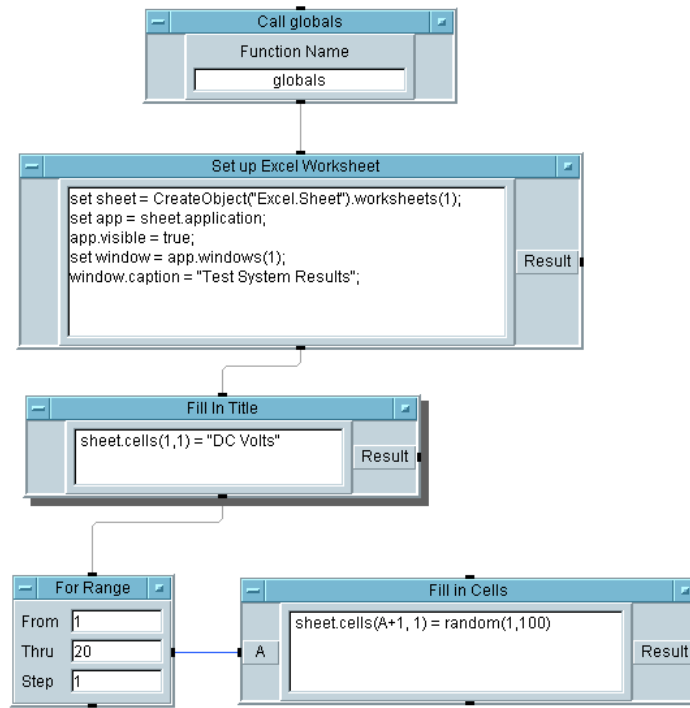

Figure 6-7. Adding the Title and Data to the Sheet
9. Create a `Formula` object (under `Device` ⇒ `Formula`). Clone the `Formula` object to create a second `Formula` object. Create a `For Range` object (under `Flow` ⇒ `Repeat` ⇒ `For Range`). Rename the objects, connect them, and configure them as shown in Figure 6-7. (Be sure to delete the input terminal on the `Formula` object `Fill in Title`.)